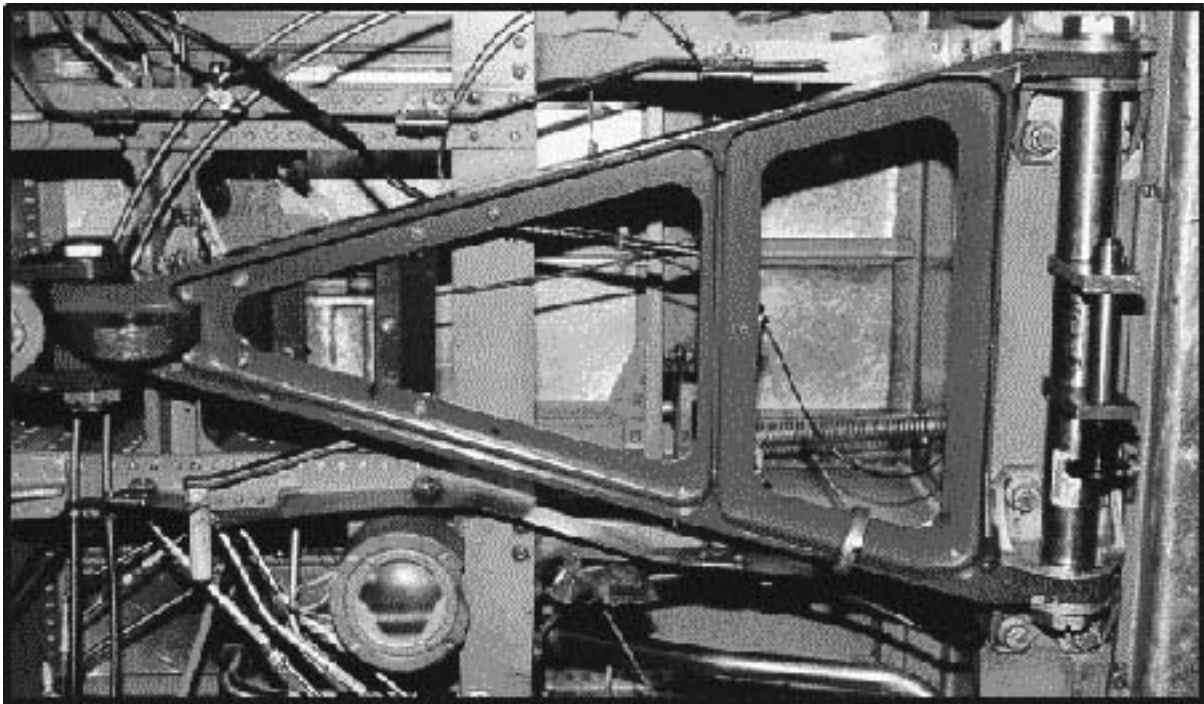

Figure 2-15. A-Frame Fast Rope Attachment Bar Assembly
d. A-FRAME FAST ROPE ATTACHMENT BAR ASSEMBLY (Figure 2-15).
(1) Characteristics: The A-Frame attachment bar assembly consists of a monel sleeve assembly and a peanut link.
(2) Uses: For attaching one fast rope for hell hole operations from the CH-53E.
(3) Manufacturer: Marine Aviation Logistics Squadron (MALS) of the Aviation Group.
(4) Installation: The A-Frame attachment bar assembly is installed by the aircrew.